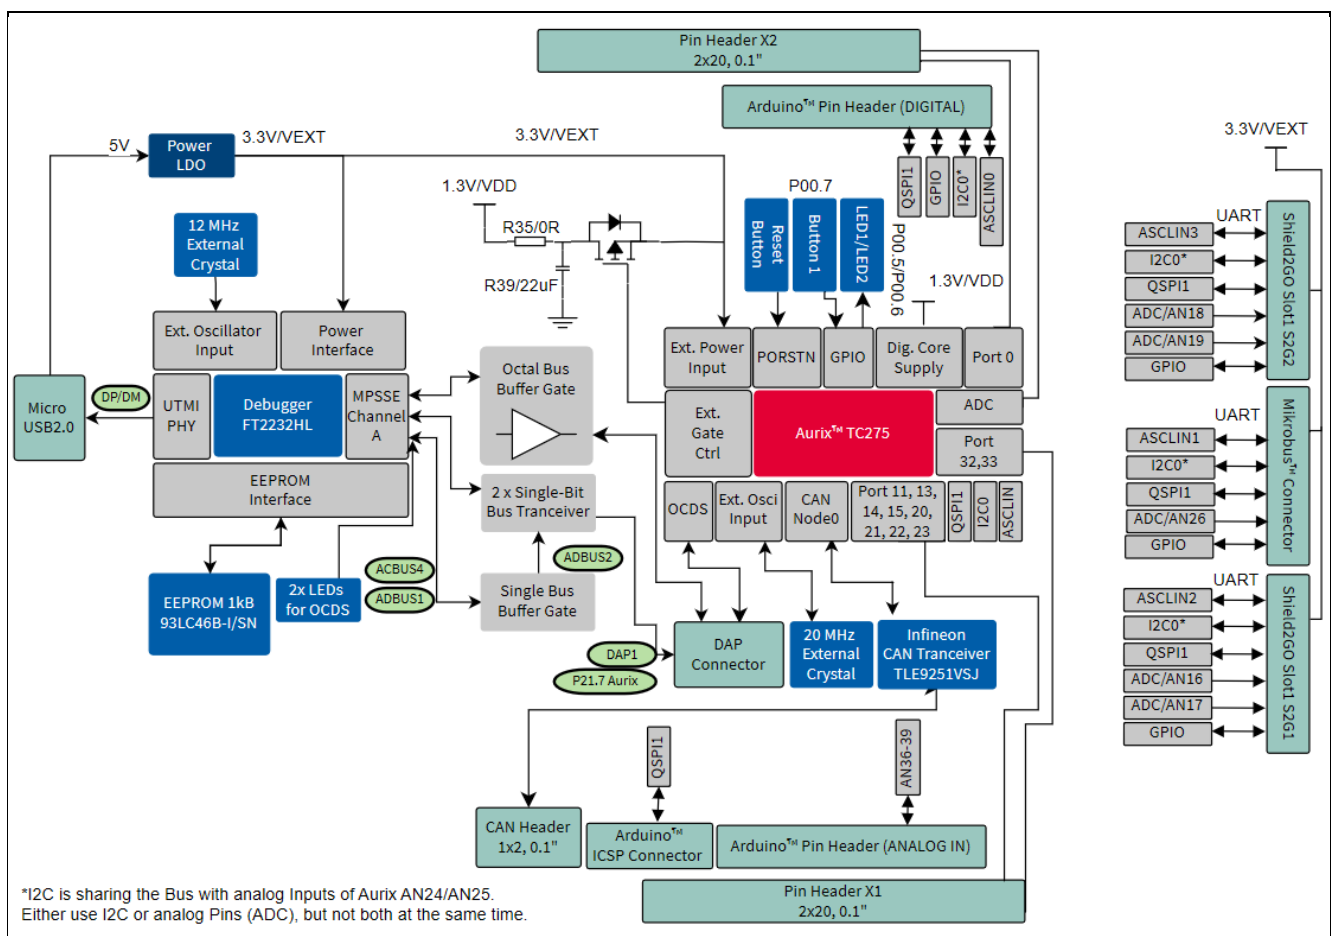

Figure 1 Block Diagram of the Aurix™ TC275 Lite Kit
- The block diagram in Figure 1 shows the main components of the Aurix™ Lite-Kit V1.1 and their interconnections.